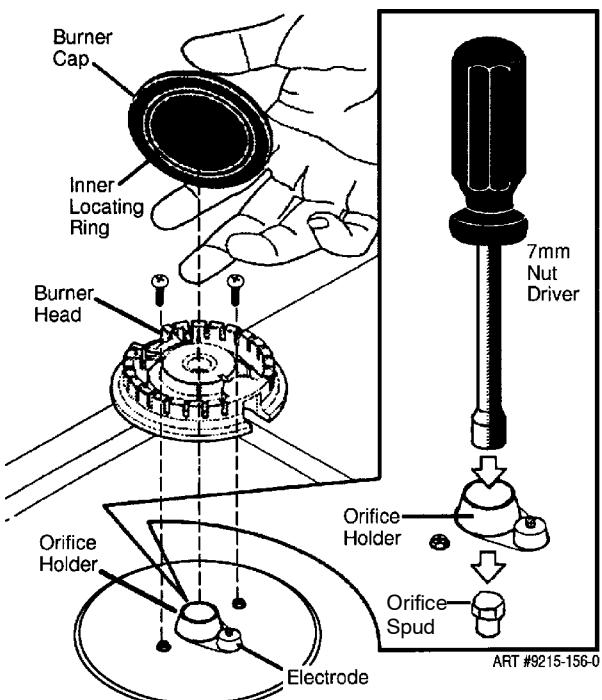

FIGURE 6
This appliance is designed for use with the appliance gas pressure regulator supplied with this appliance. It must be installed in the gas line ahead of the gas manifold entrance. It is preset for use with natural gas and must be converted, as described on pages 7 and 8, for use with LP gas. (See figures 6 – 11).
Step 2: Remove burner base by removing 2 screws. (See figure 6).
Step 3: Firmly press 9/32" (or 7mm) nut driver over the orifice spud (figures 6 and 7) and loosen spud by turning counter-clockwise. Carefully lift nut driver out of burner throat. Orifice spud should be captured in the nut driver. Repeat steps 2 & 3 for each burner.